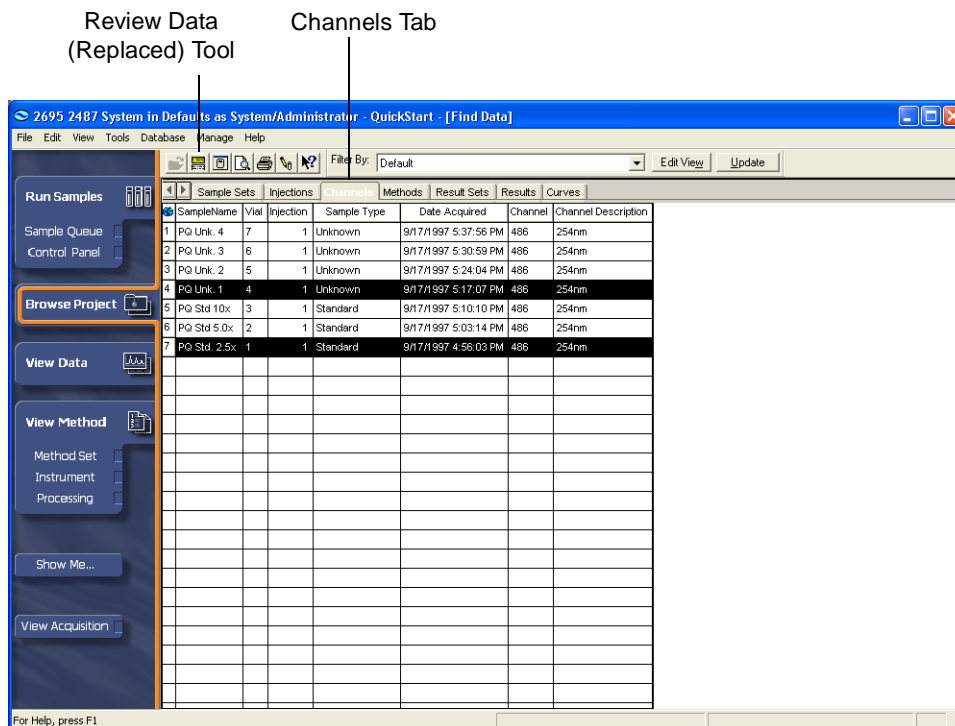

Figure 6-1 Browse Project, Channels Tab
1. Click **Browse Project** on the navigation bar. Click the **Channels** tab to access the unprocessed channels data (Figure 6-1).
- Click **PQ Std 2.5x**, hold the **Ctrl** key, then click one of the samples named **Unk**. These two samples are selected in the Channels table (Figure 6-1).